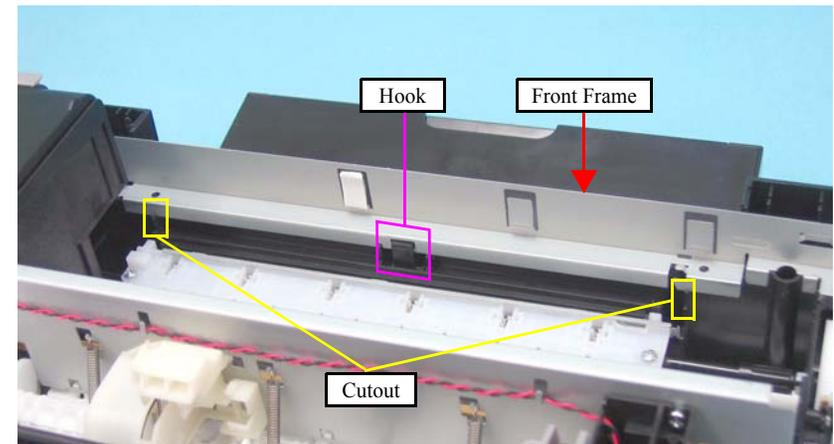

Figure 4-37. Removing Front Frame/Right Frame (3)
- As shown in Figure 4-37, be sure to secure the Front Frame with the hook (x1) and the cutouts (x2).